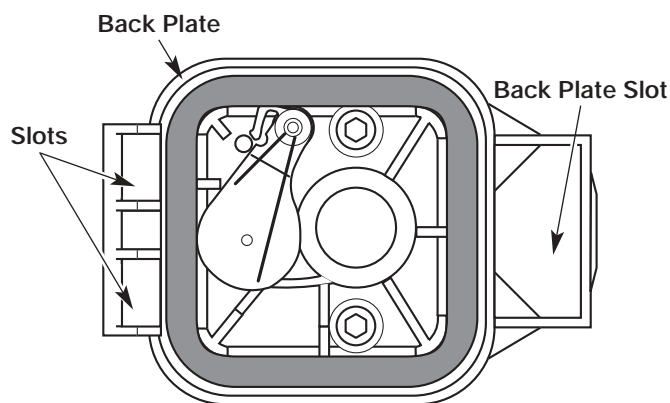

Fig. 65
6. Replace the filter (Fig. 65).
7. Reinstall the air filter cover. Position the hooks on the left side of the air filter cover into the slots at the left side of the back plate (Fig. 65).
8. Swing the cover to the right until the tab on the air filter cover snaps into place in the slot on the back plate (Fig. 65).